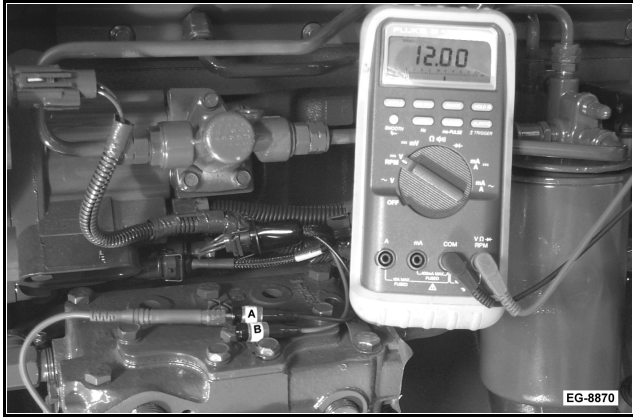

Figure 40 ECM Voltage Measurement with Breakout Tee
3. Place the DMM negative lead (black) onto a clean ground. Place the DMM positive lead (red) to Pin A . See ECM Voltage Measurement with Breakout Tee (See Figure 40, page 76).